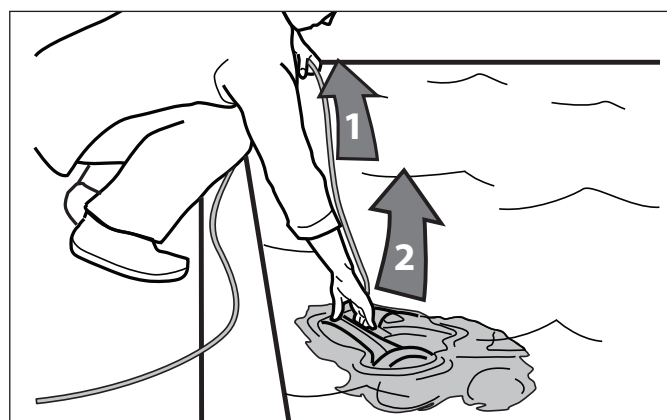

Figure 21. Remove Cleaner From Pool
- Never lift the cleaner out of the pool by the floating cable. Always use the handle to remove it from the pool. Refer to Figures 21 and 22.
1. After the cleaning cycle is completed, the four (4) lights located on the control unit will flash slowly to indicate that the cleaner may be removed from the pool.
4. Never lift the 9300xi Sport out of the pool by the floating cable. Always use the handle to remove it from the pool. Refer to Figures 21 and 22.